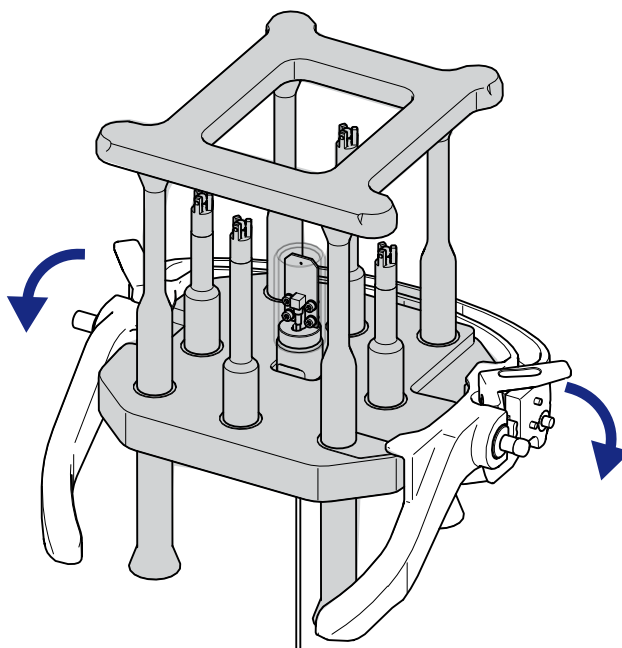

Figure 6.3 Lock the Vantage frame adapter to the QA tool Vantage
- 5 Turn and fold down the left and right levers to lock the frame adapter on the QA tool, see Figure 6.3.